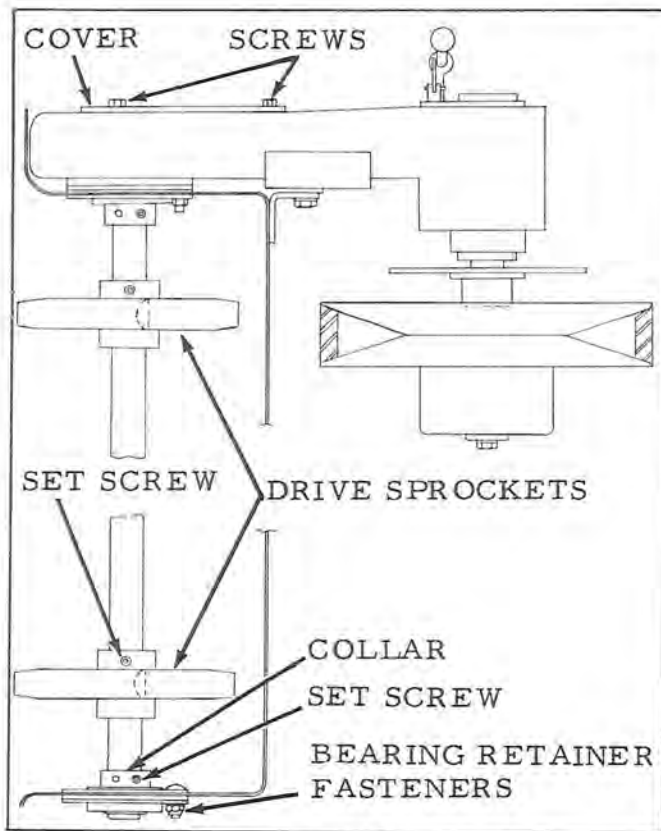

Figure 3
5. Remove the three screws, lock washers, and nuts that hold the bearing retainer to the right side of the sled (See Figure 3).
in each collar. Insert a punch into the notch. Tap the punch lightly to loosen the collar (See Figure 3).
10. Remove the three screws which secure the chain case cover (See Figure 3).